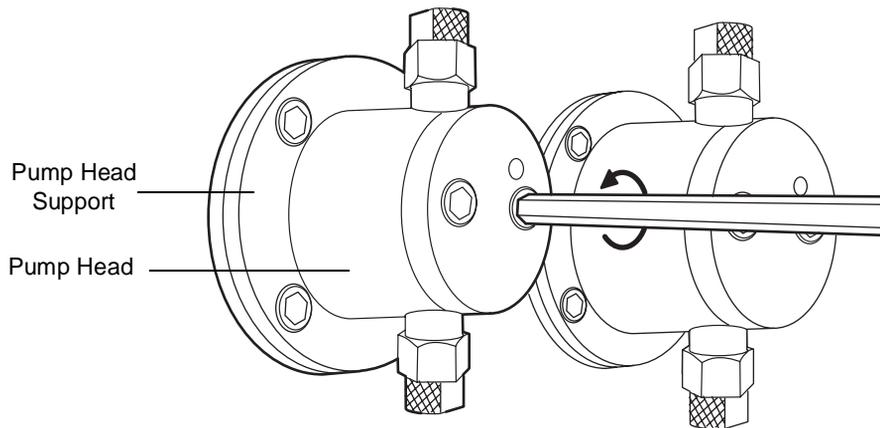

Figure 2-2 Removing Head Bolts (1525 Analytical and 1525EF Shown, 1525 μ Similar)
4. While holding the pump head in place, use the 5/32-inch T-handle hex wrench to remove the two pump head mounting screws. Alternately loosen the screws 1/2-turn at a time for the first two turns (Figure 2-2).